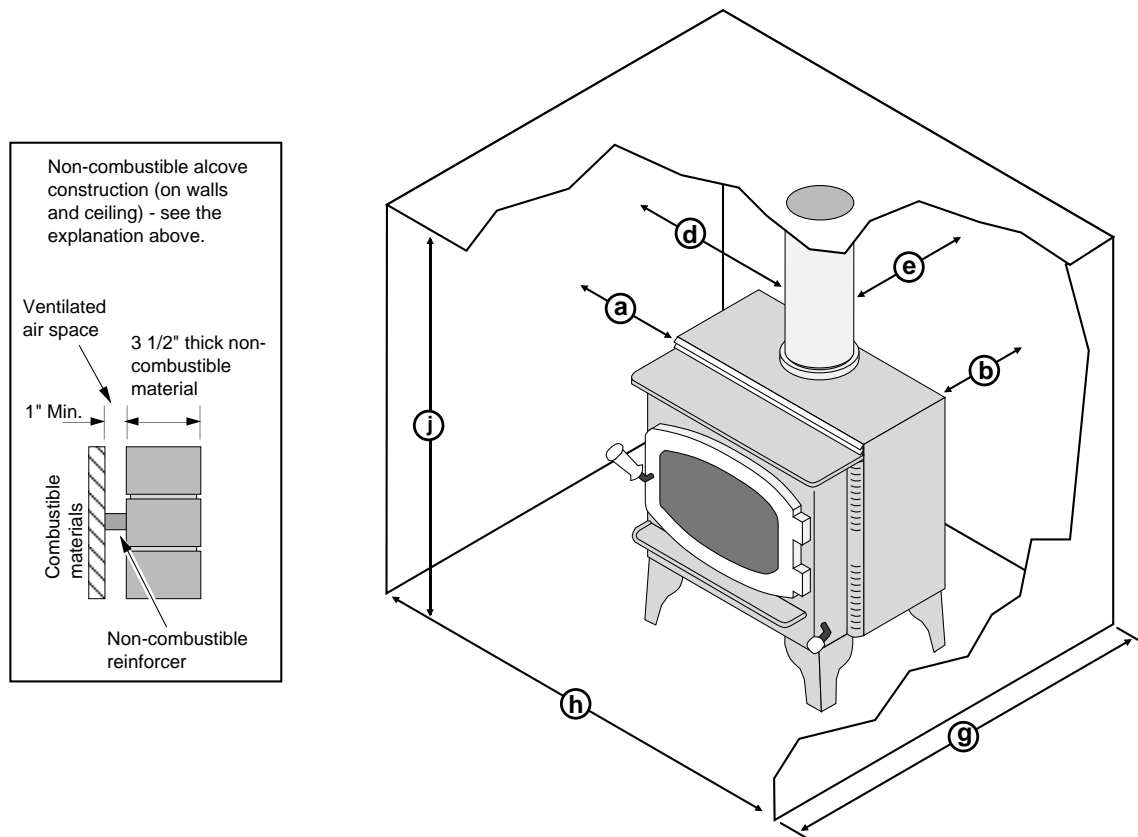

Figure 7
- Alcoves are classified as combustible or non-combustible. Non-combustible alcoves must have walls and a ceiling that are 3 1/2" thick of a non-combustible material (brick, stone, or concrete - see Figure 7). This non-combustible material must be spaced and ventilated at least 1" off of all combustible materials (walls, ceiling, etc.) to allow air to move around the non-combustible walls and ceiling. All other alcoves are considered combustible. The clearances below must be met: